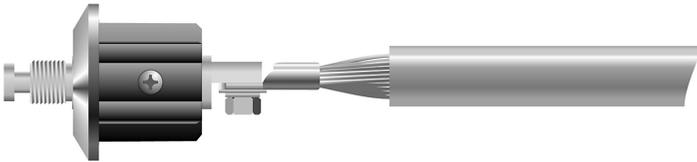

Figure 26.
6. Connect the crimp lug to the Guardian CAT Terminal Base Assembly using the bolt and washers as supplied with the assembly. Ensure the connection is aligned correctly and tightly secured using a 14mm spanner, socket or shifting spanner. (Figure 26)